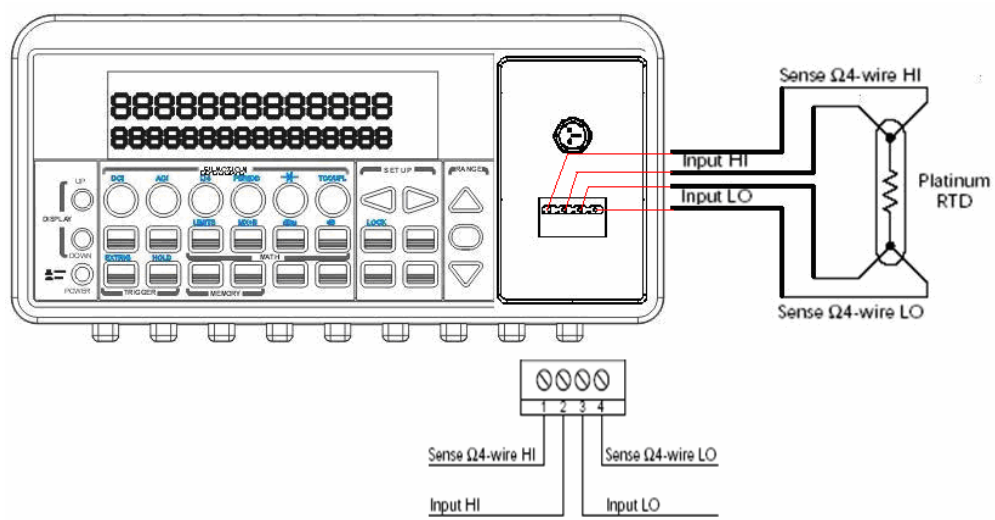

Figure 3-18
- ① Use terminals switch to select front terminals.
- ② Insert a specified adapter into the front terminals. Connect the low thermal patch leads to the adapter as shown in **Figure 3-18**.
- ③ Configure sensor type and unit using CONFIG + TEMP and ◀ or ▶. When ready, press ENTER button.
- ④ Press TEMP button.
- ⑤ Place RTD in the desired position and take the reading on the display.